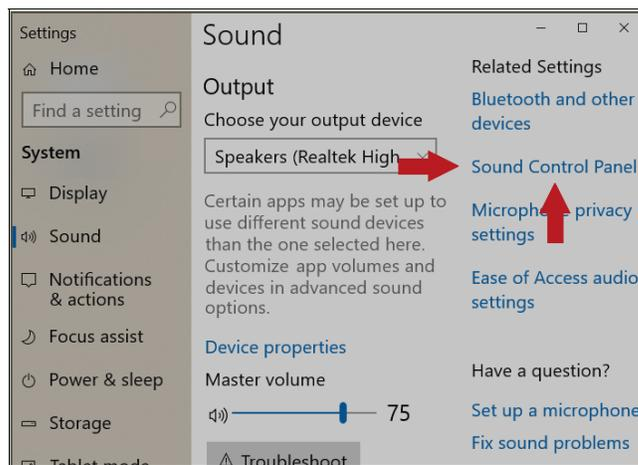

Figure 11 – Settings Window
- In the "Settings" window that opens, click "Sound Control Panel" on the upper right side of the screen as shown in Figure 11.